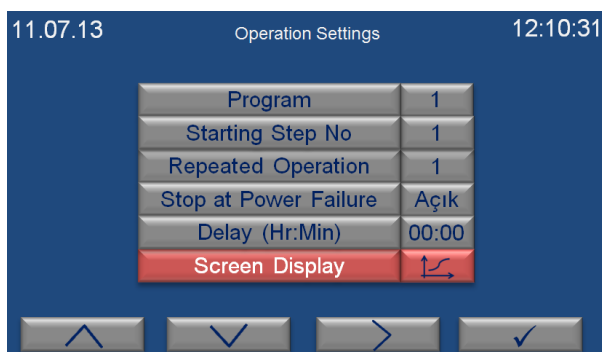

**Figure 4**
**16-** Push tab key (F3). Choose *Screen Display* as numerical by using increase (F1) and decrease (F2) keys (See Figure 4). Push enter key (F4).